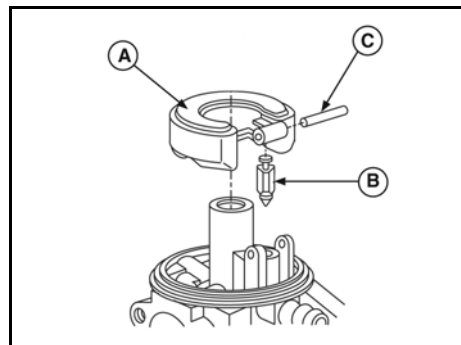

Figure 33
6. Install new inlet needle (B, Figure 33) on float (A), then position float in carburetor body. Secure with new hinge pin (C) and center the pin between the float bosses.